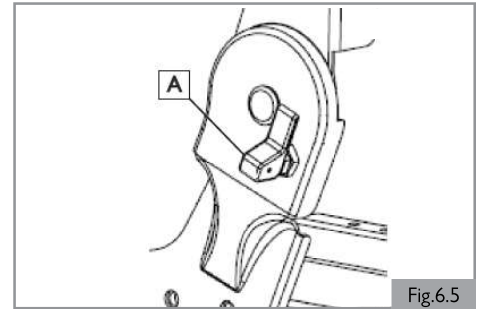

Fig.6.5
1. Locking pin lever (A) should be disengaged. (Fig. 6.5)